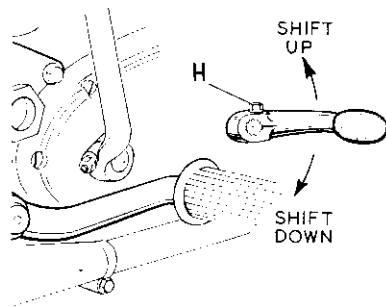

FIGURE 8.
**Gear-shift Lever:**—The mechanism is of the “positive-stop” type and following a gear shift, the lever returns to its central position as soon as foot pressure is released. Neutral position is between first and second gear and gear shifts are made by pressing the lever down to shift down, and raising it to shift up (Fig. 8).
**Gear Shift Lever** (Fig. 8).—The lever can be moved to a new position after slackening the pinch bolt (H). Withdraw the lever from its shaft, replace on a new serration and firmly tighten the bolt.